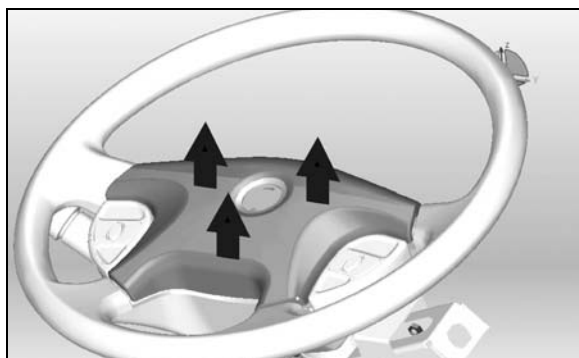

FIGURE 11: REMOVING THE HORN PAD
2. Pull the horn pad straight up gently to detach it from the steering wheel (Figure 11).